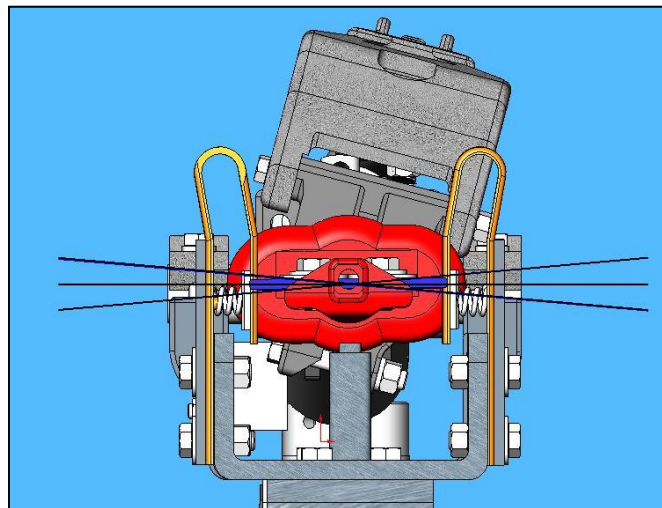

Figure 7. Blade Tip Must Be As Flat in the Jaw as Possible
- 2.1.5. These switches will have adequate contact pressure if the blade has rotated to within plus or minus 5° of perpendicular in the contacts as shown in **Figure 7**. Adjustment of the bearing stop may be required.